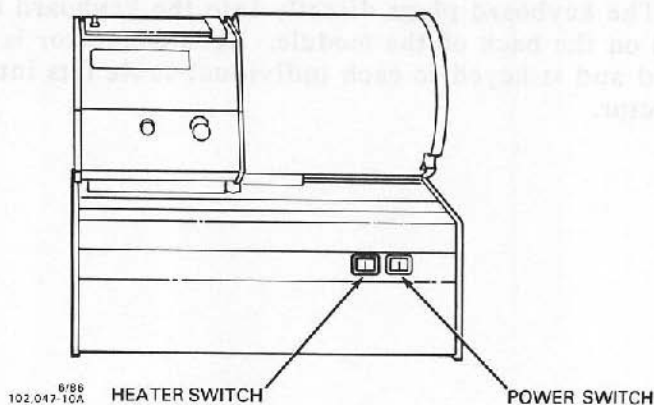

Figure 2.2
2. Turn the **POWER** switch to the ON position. See Figure 2.2. The **READY** light (Figure 2.1) should come on after 2 to 6 seconds and glow steadily. Watch the display, if attached, during the confidence test for error indications. If everything is functioning properly or no fatal errors have been detected, the Du Pont Title screen appears on the module keyboard. See Figure 2.3.
The mode selection screen appears three seconds after the title screen. See Figure 2.4. Turn on the **HEATER** switch (Figure 2.2) if you want to perform an experiment. See page 2-4 for NOTE.